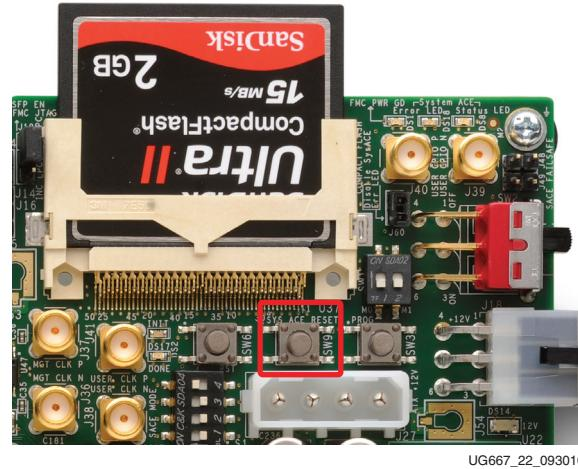

Figure 22: SP605 SYSACE RESET Button
7. Press the SYS ACE RESET button (SW9) shown in Figure 22 to re-load the Benchmarking Demo. Make sure the Compact FLASH card is still inserted.